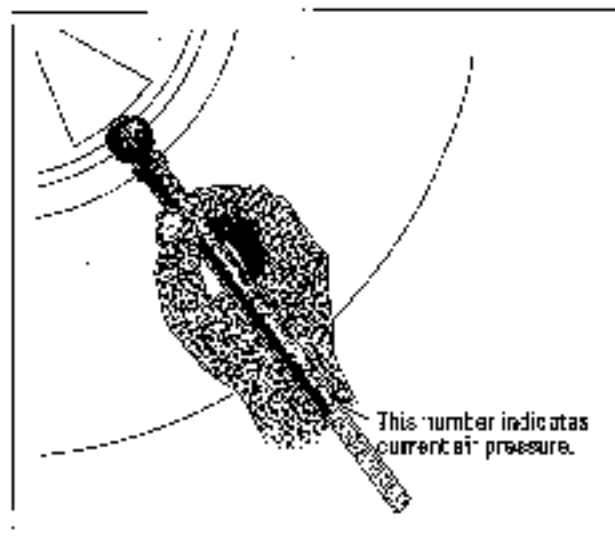

Figure 19-2
Figure 19-2 shows you what a tire gauge looks like. I show you how to use one a little later in this section.
4. Place the open, rounded end of the tire gauge against the valve so that the little pin in the gauge contacts the pin in the valve (see Figure 19-2).
The last number is the amount of air pressure in your tire, as shown in Figure 19-2. Does the gauge indicate the proper amount of pressure recommended on the decal?